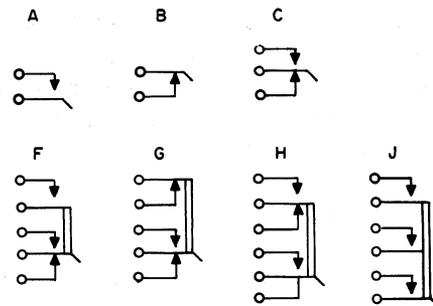

Fig. 4—KS-15634 L1 Through L4 Interrupter Timing
- (a) **KS-15634 L1 through L6, and L8 Interrupters:** The timing of the normally open and normally closed contacts adjacent to the cam shall be in accordance with the applicable chart in Fig. 4, 5, 6 and the tolerances covered in (c) unless otherwise specified on the circuit drawing.
- (1) Taking the closure of the normally open contacts in No. 1 spring pack as occurring at 0 revolutions, the closure or opening of the contacts adjacent to the cam in other spring packs shall occur within $\pm 1/2$ revolutions from their point of closure or opening as shown in the applicable chart in Fig. 4, 5, 6, or 7.
- (2) Contacts shall remain closed or open for not less than the smaller or more than the greater number of revolutions shown in the adjustment limit column of the applicable chart in Fig. 4, 5, 6, or 7.